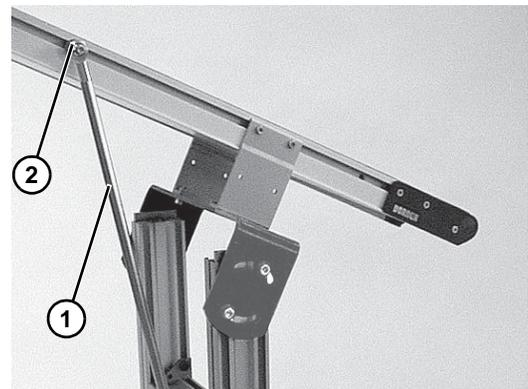

Figure 5
4. If conveyor is equipped with diagonal bracing (Figure 5, item 1), socket screw (Figure 5, item 2) must be loosened to adjust conveyor angle. Secure screw to 100 in-lb (11 N-m) after adjustment.